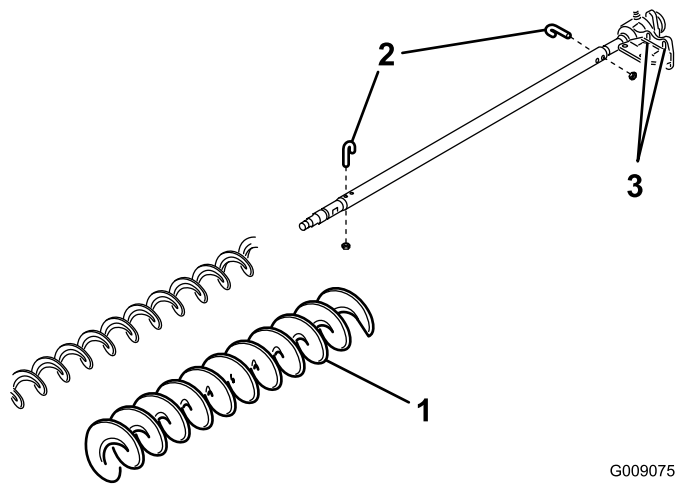

Figure 38
3. Remove the 2 J-bolts and nuts (Figure 38).
4. Slide the existing brush off the brush shaft (Figure 38).
5. Loosen the 2 bolts, washers, and nuts securing the drive bearing housing to the bearing housing mounting bracket (Figure 38).
6. Slide the high height of cut brush onto the brush shaft (Figure 38).
7. Clamp the brush onto the shaft with the 2 J-bolts and nuts previously removed (Figure 38).